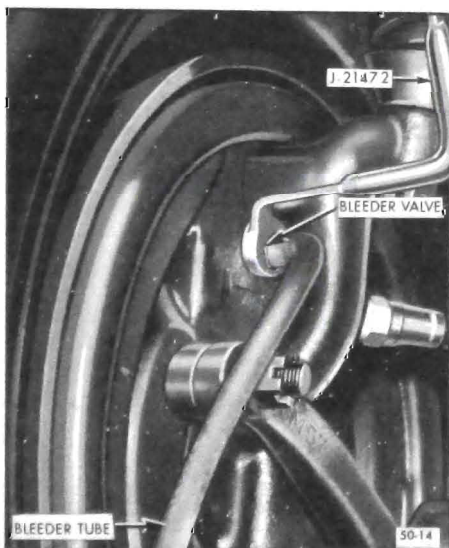

Figure 50-25--Bleeding Front Wheel Cylinder
2. Install bleeder Wrench J-21472 on bleeder valve. Slip a brake bleeder tube over ball of wheel cylinder bleeder valve. Place lower end of bleeder tube in a glass jar that is partially filled with clean brake fluid. Position end of tube so that it will remain submerged under fluid during bleeding operation. Unscrew bleeder valve 3/4 of a turn. See Figure 50-25.